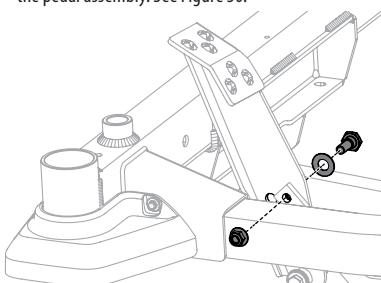

Figure 30
2. Remove the hex bolt, washer and hex nut near the center of the pedal assembly. See Figure 30.
4. Re-install the hardware previously removed and torque the nut to 28-35 ft-lbs (38-47 N-m). See Figure 30.